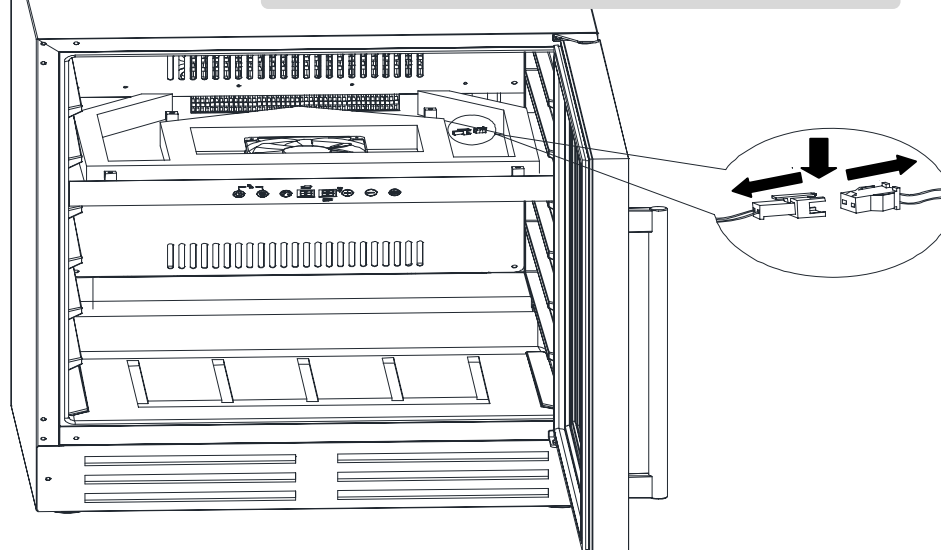

Figure 5
- Unscrew the 8 screws (No.1-8) on Separator Base one by one (**Figure 5**);